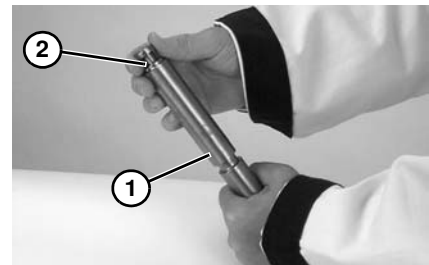

Figure 80
2. Inspect spindle (**Figure 80, item 1**). Replace if worn.
3. Slide bearing (**Figure 80, item 2**) onto spindle.